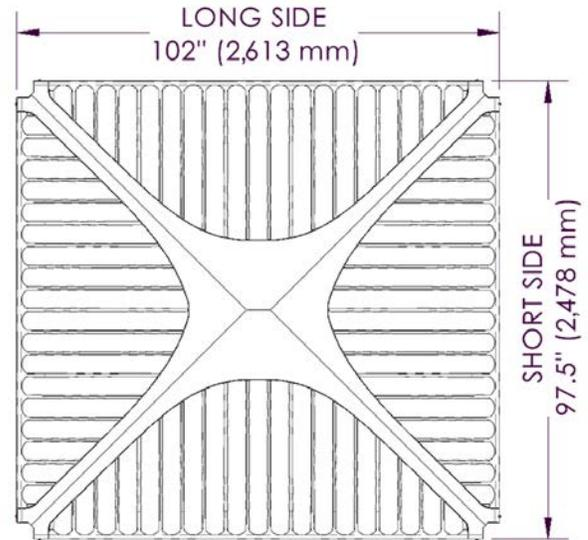

FIGURE 14: RECTANGULAR COVER
2. Install the top section of the cover on the spa and center it as best as possible. Measure the spa dimensions and align the long side of the cover with the longest side of the spa, see Figure 14. The light switch of the LED light kit should be placed on the entry side of the spa.
The cover is rectangular, see Figure 14. The standard model will need the motor frame to be on the short side of the cover, whereas the long-side will need the motor frame on the long side of the cover.